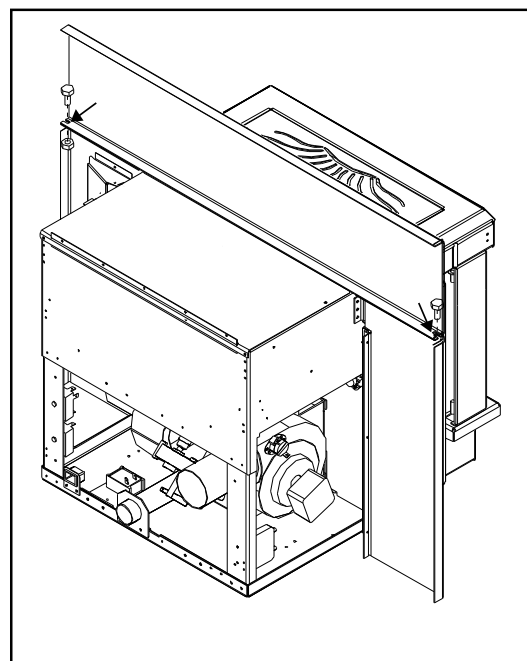

Figure 36: Assembling the Surround Panel, back view.
5. Insert each side panel anchor bolt through the top panel into the corresponding side panel holes and tighten using a $\frac{7}{16}$ " wench or socket (refer to Figure 36).